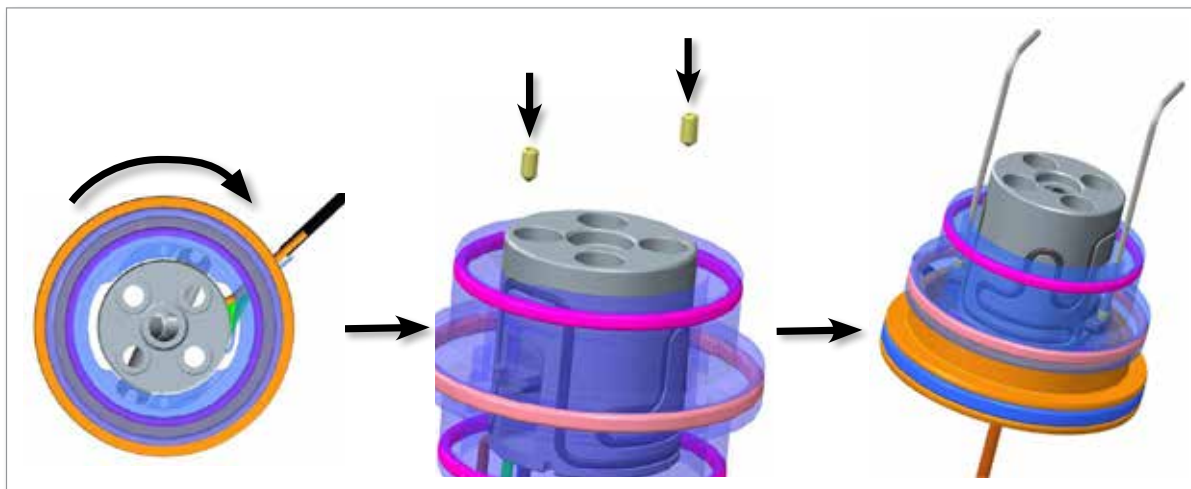

Figure 11-14 Lock piston assembly and valve pin holder
11. Rotate the piston assembly to align its screw hole with the valve pin holder. Use an Allen key to lock the piston assembly and the valve pin holder with set screws. See Figure 11-14.